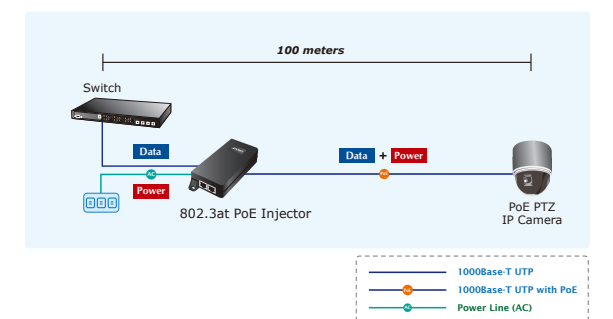

Figure 2: Connection to IEEE 802.3at / 802.3af Devices
4. Connect with IEEE 802.3at / 802.3af devices, due to the capability of IEEE 802.3at / 802.3af Power over Ethernet, the 802.3at PoE Injector can directly connect with any IEEE 802.3at / 802.3af end-nodes such as PTZ (Pan, Tilt & Zoom) network cameras, PTZ Speed Dome, color touch- screen Voice over IP (VoIP) telephones, multi- channel wireless LAN access points where support IEEE 802.3at / 802.3af In-line Power over Ethernet port. The screen in Figure 2 appears.